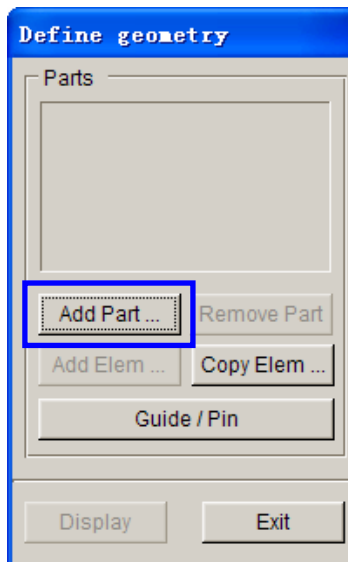

Figure 74: Define geometry dialog box
5. The **Define Geometry** dialog box illustrated in Figure 74 is displayed. Click the **Add Part...** button.